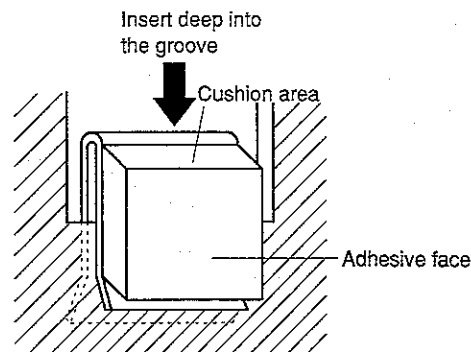

Fig. 5
- ④ Peel off the protective seal from the cushion area. The adhesive area is then exposed. Don't lay a table cloth on the table because the adhesive area may accidentally contact it. Also clean the surface of the table.
- ⑤ Stand the drawer up, and gently press it down to fix the adhesive face of each fixture firmly on the table. (See Fig. 5)